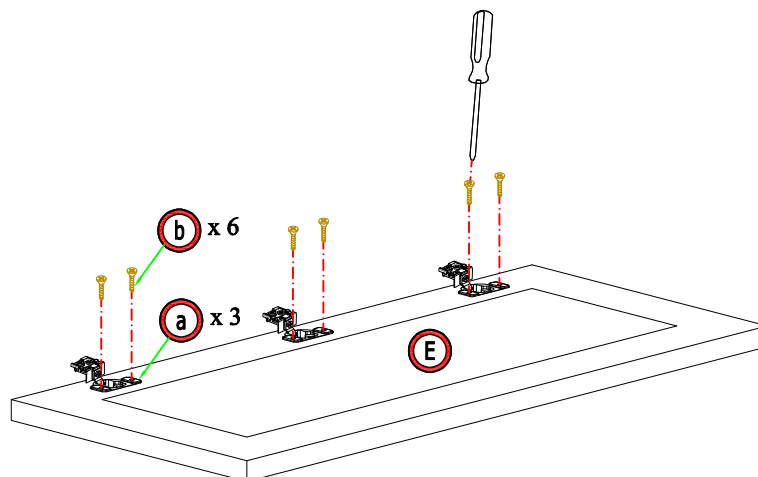

Figure 8
8. Assemble 3 hinges into one doors by screwdriver and 6 screw 7/15" (Figure 8)